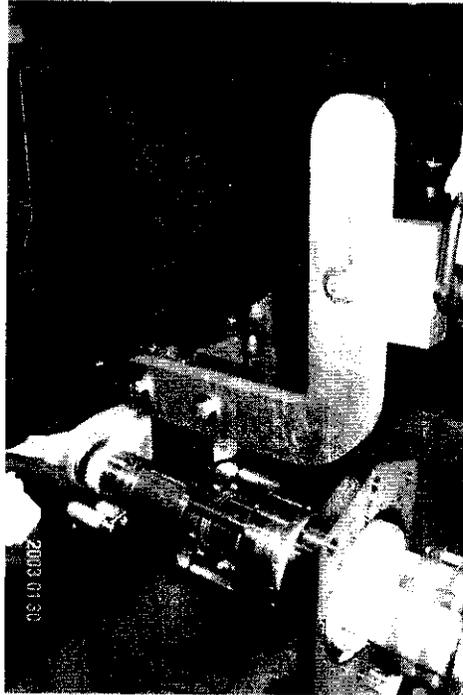

Figure 1.1 Orientation of the insertion/lifting tool to allow the power lead to be held horizontally.
- 1.1 With the lead on the steel table, swing the insertion/lifting tool 180° so that the lead can be picked up and remain horizontal as shown in Figure 1.1.